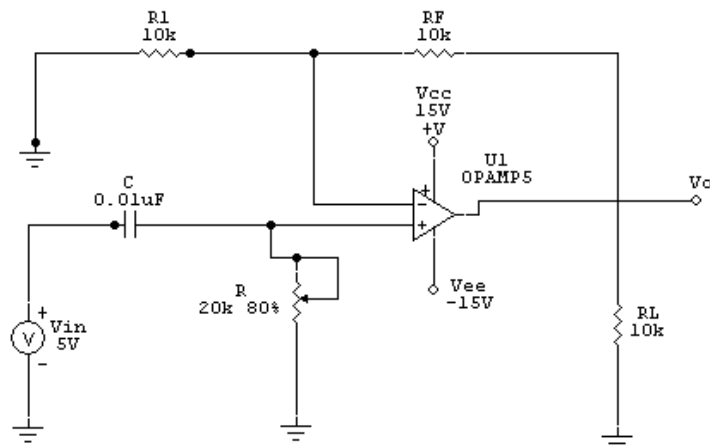

Fig: 5b High Pass Filter
2. For the high pass filter, make the circuit as shown in Fig. 5b. Repeat the experiment as for low pass filter.